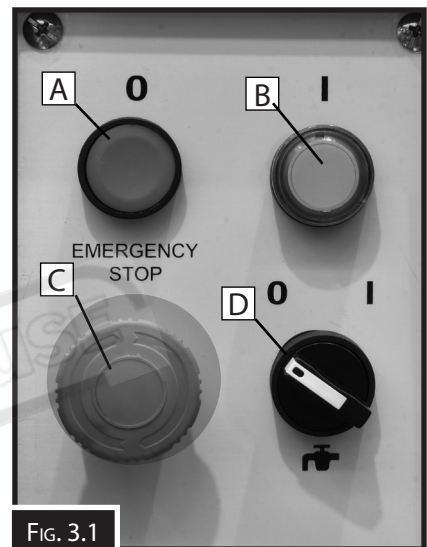

FIG. 3.1
A. Stop Button: When pressed stops the supply of power to the machine. (Fig. 3.1)
C. Emergency Stop Button: Cuts power to motor and remains depressed until reset. Twist clockwise to reset. (Fig. 3.1)
D. Coolant Pump Switch: Switches ON and OFF the power supply to the coolant pump. (Fig. 3.1)
5. Press the power switch to "1" (ON) position (B in Fig. 3.1).
6. Rotate Emergency Stop button (C in Fig. 3.1) clockwise to reset